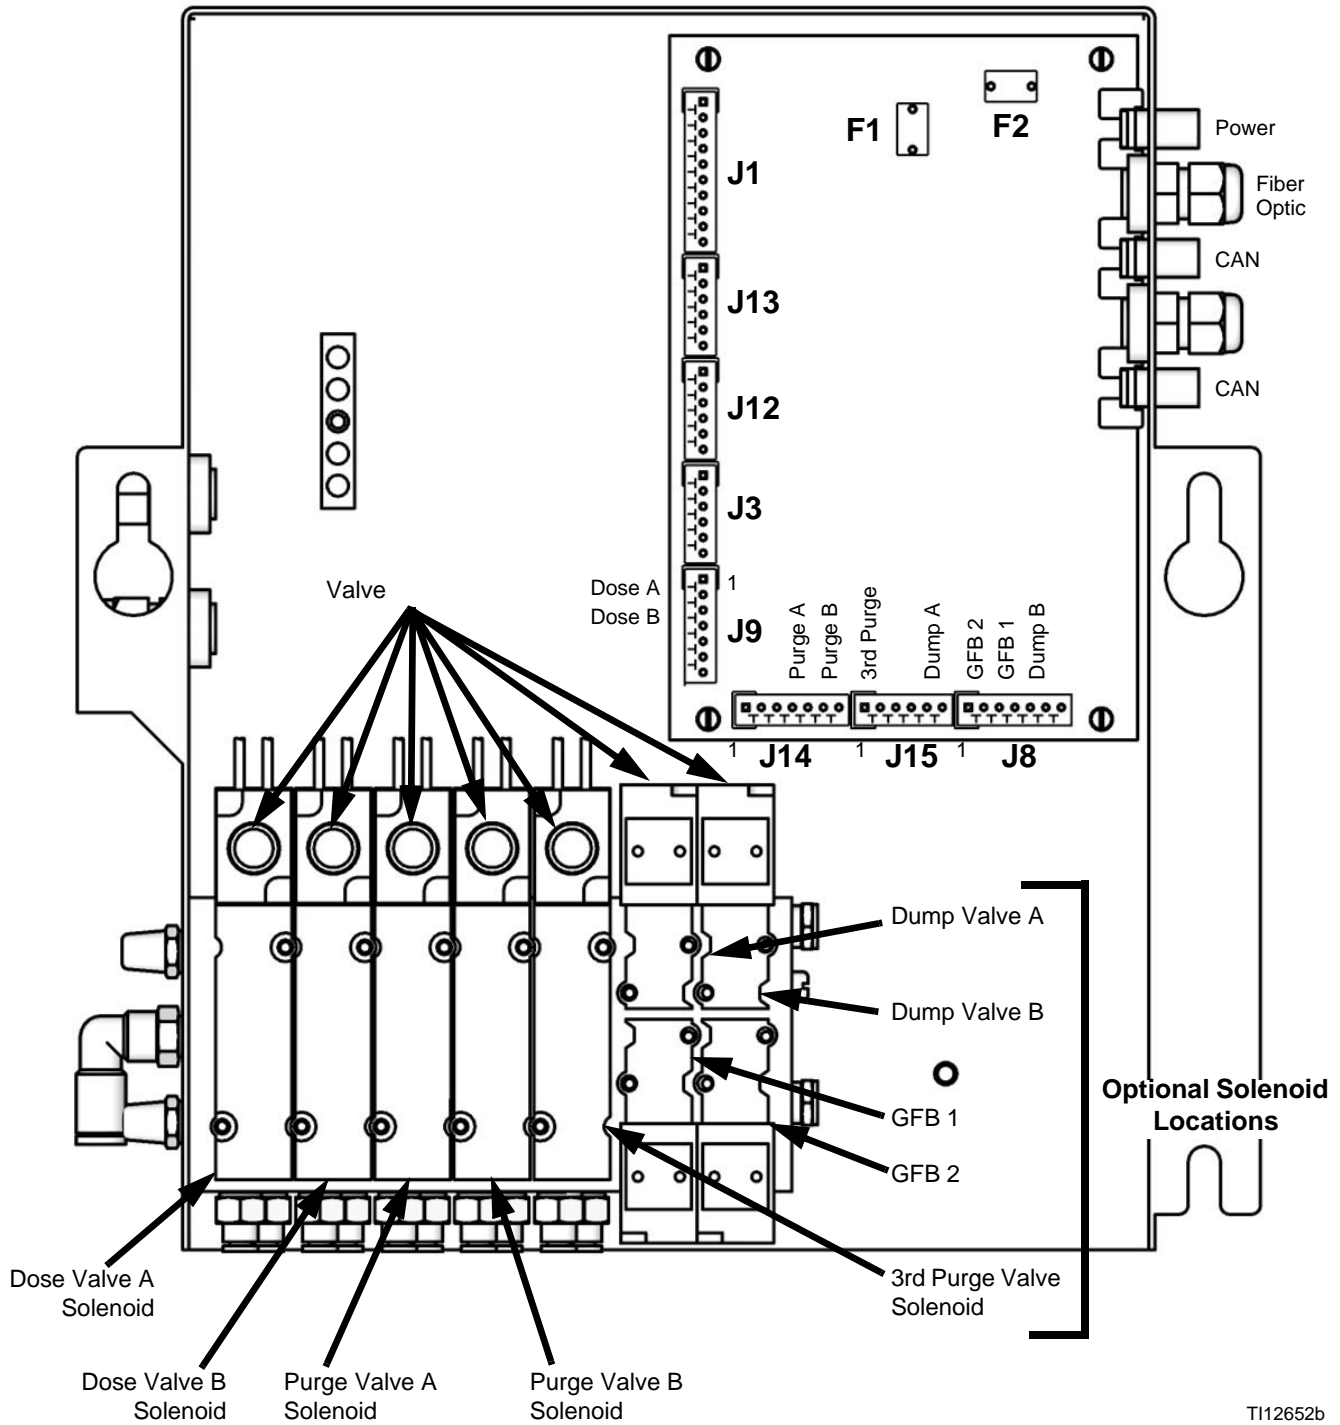

FIG. 4: Fluid Station Board and Solenoids
2. With the gun triggered, push the manual override on the A and B dose valve solenoids to relieve pressure. See FIG. 4.
5. With the gun triggered, push the manual override on the A and B purge valve solenoids to relieve air and solvent pressure. See FIG. 4. Verify that solvent pressure is reduced to 0.
3. Press and hold the dump valve A solenoid override, FIG. 4.
5. Press and hold the dump valve B solenoid override, FIG. 4.
7. Press and hold the dump valve A solenoid override, FIG. 4.
9. Press and hold the dump valve B solenoid override, FIG. 4.
3. Solenoid failure.	<p>Manually operate the valves by removing the Fluid Station cover and pressing and releasing solenoid valve override buttons. FIG. 4.</p> <p>Use the control board diagnostics to check the signals. If signals do not occur correctly, go to Cause 4.</p> <p>Valves should snap open and shut quickly. If the valves actuate slowly, it could be caused by:</p> <ul style="list-style-type: none"> • Air pressure to the valve actuators is too low. See Cause 1. • Solenoid is clogged. Make sure air supply has 5 micron filter installed. • Something is restricting the solenoid or tubing. Check for air output from air line for corresponding solenoid when valve is actuated. Clear restriction. • A dose valve is turned in too far. See ProMix 2KS Operation manual for settings. • Fluid pressure is high and air pressure is low. • Fluid seal in valve has failed. See corresponding valve manual for repair information.